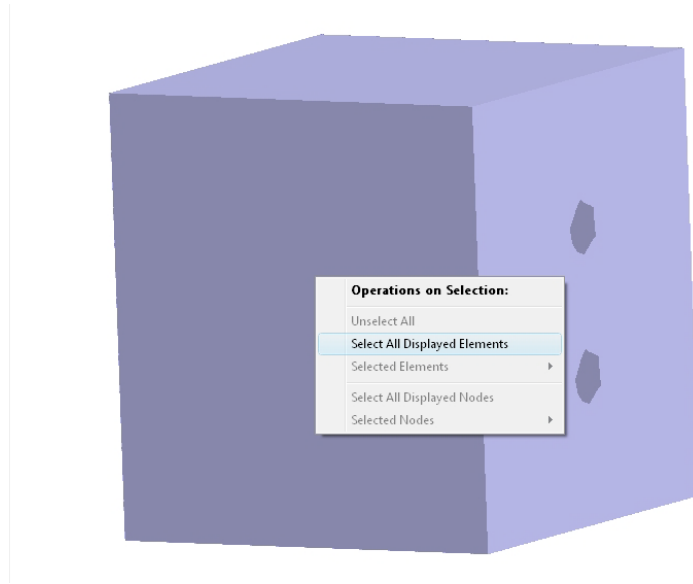

Figure A.9 Select all displayed elements in the GUI.
- Right-click on the mesh while holding down the *shift-key* to view a pop-up context menu shown in Figure A.9 and select: **Select All Displayed Elements**.
- Left-click on the elements around the edge of a hole while holding the *shift-key*. Make sure to select elements with nodes on the hole edge (similar to the Figure A.9).